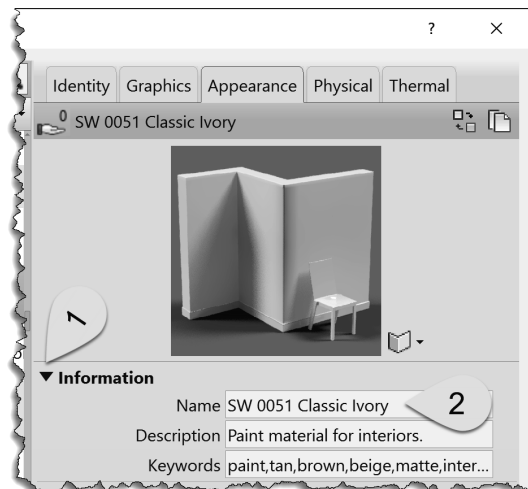

FIGURE 4-3.16 Rename new asset
46. Expand the **Information** area in the *Appearance* tab (Figure 4-3.16).